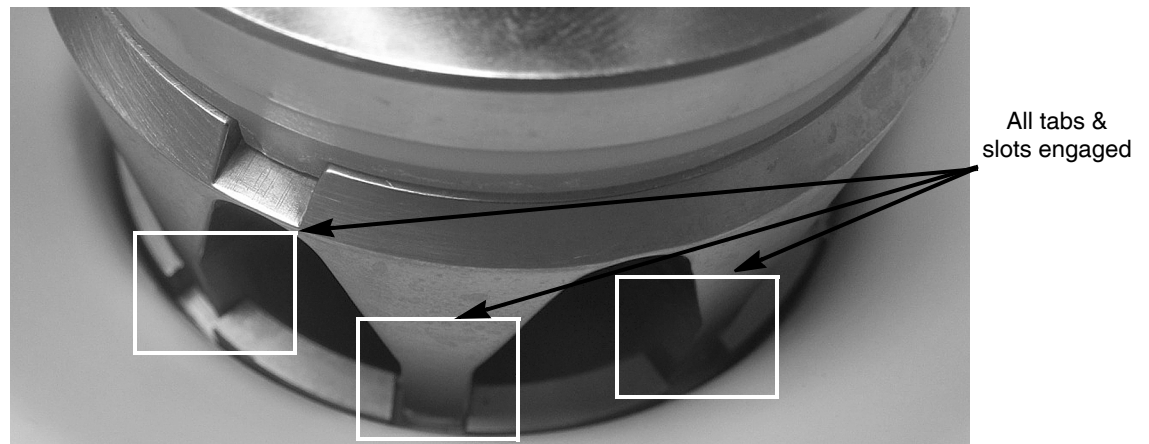

Figure 29.
- Carefully rotate the extruder head until the tabs on the extruder head drop into the slots on the evaporator plate, as shown in Figure 29. When the auger/extruder head assembly is rotated to the proper position, it will drop about 1/4 inch to more fully engage the motor drive shaft.